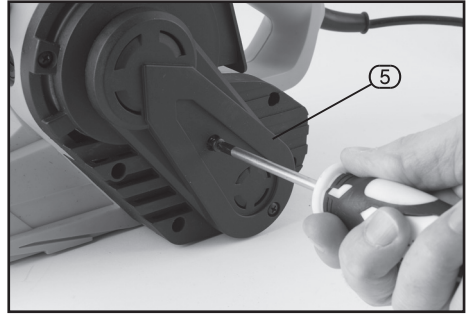

FIG.7
10.1 DRIVE BELT REPLACEMENT – FIGS. 7 – 8
- To access the drive belt, remove the protective cover (5) which is secured with three cross slot screws. Slide the toothed belt (5.1) off the small drive pulley first. Fit the new belt on the large pulley first and gently work the belt over the small pulley. Never operate the sander with the cover removed.